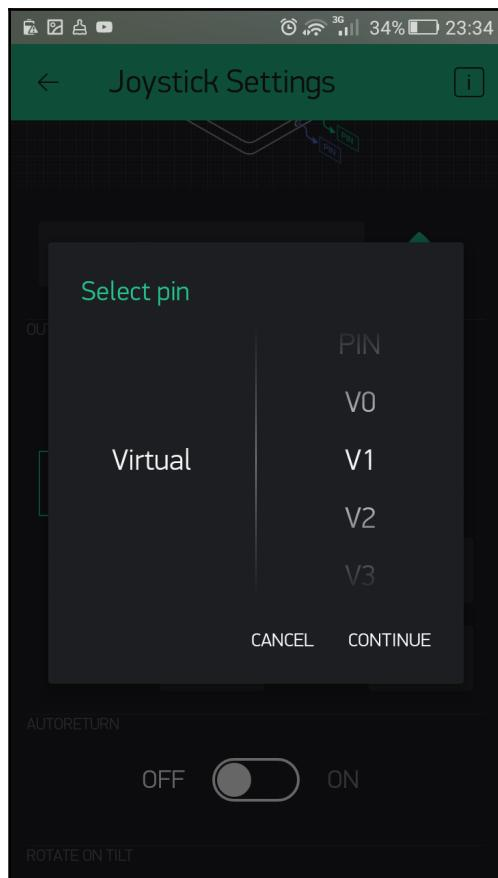

Figure 2.27: Selecting a virtual pin
10. Set the virtual PIN to V1 and set AUTORETURN to OFF (Figure 2.27):